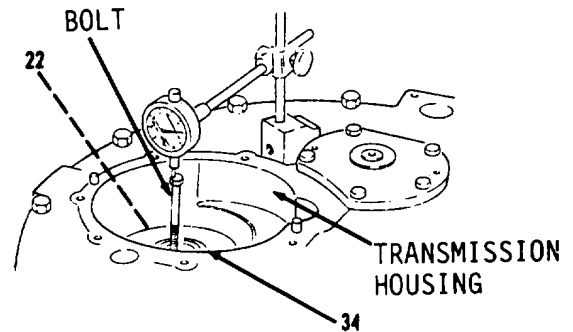
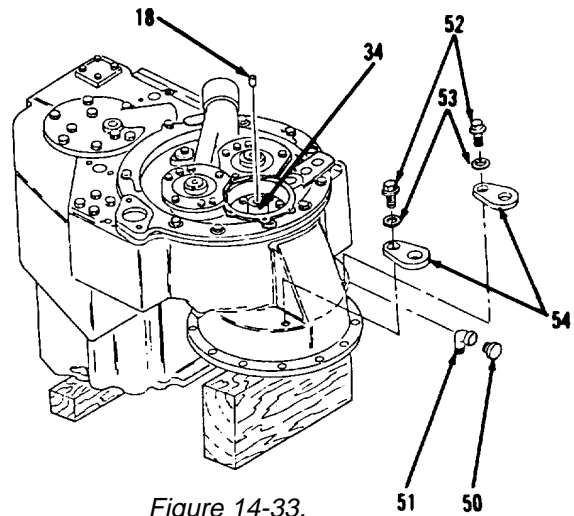

Figure 14-32.
Figure 14-33.
74. Install 3/8-16NC x 4 bolt in shaft (34, Figure 14-32).
76. Move gear (34) up and down from bottom of transmission housing and check end clearance. End clearance must be .002 to .006 inch. Add or remove shim(s) from shim pack (22) to get correct end clearance.
79. Install guide (18) on gear (34, Figure 14-33).
80. Install two lifting eyes (54), lockwashers (53) and bolts (52).
81. Install elbow (51) and breather (50).